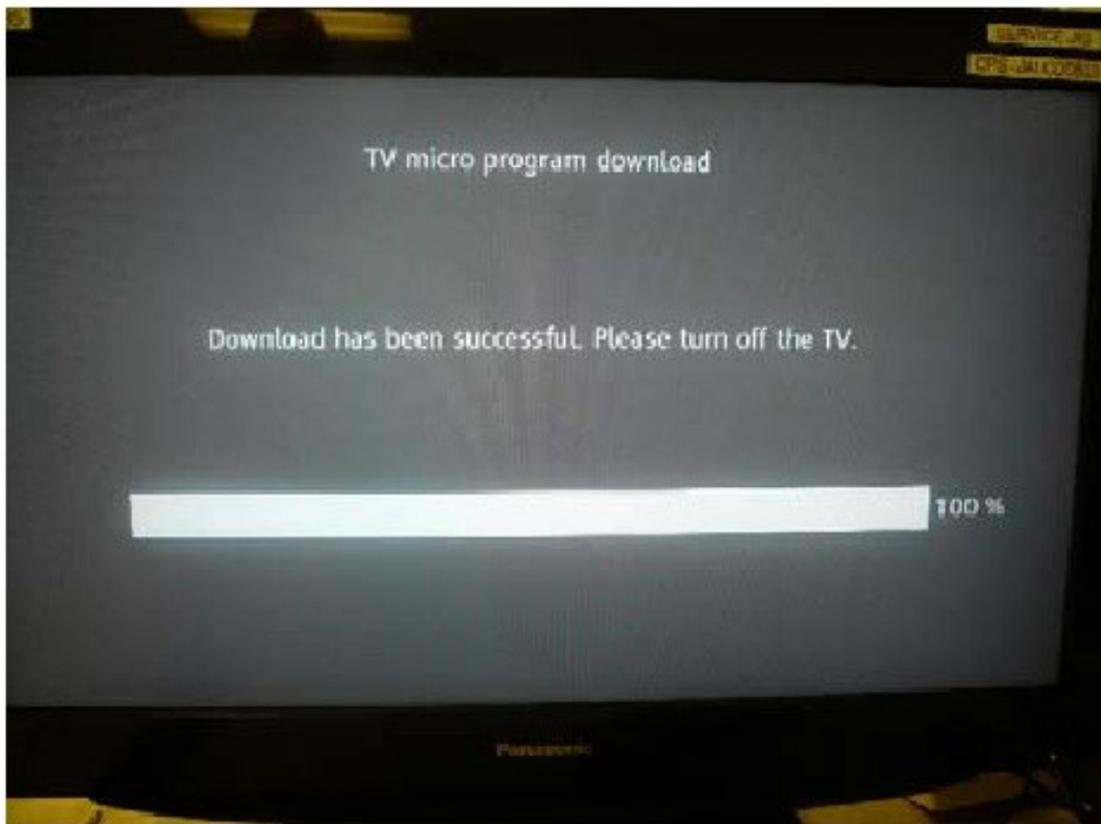

Fig.3
3. When upgrade was completed, the screen will change as in Fig.3